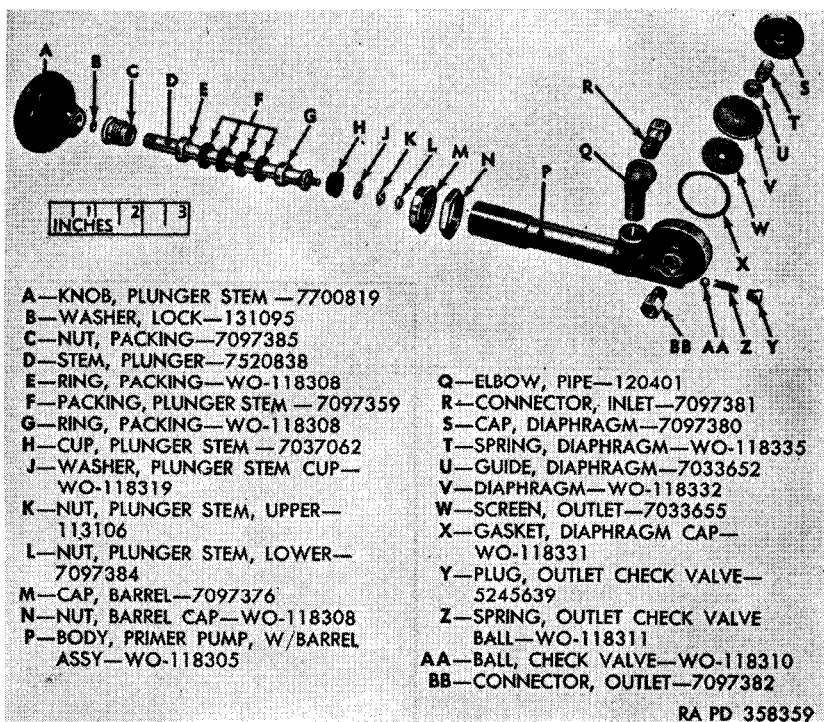

Figure 108. Primer pump—exploded view.
(fig. 108)
a. Disassembly (fig. 108). During removal operations, the knob and plunger assembly will be separated from the pump body. Remove upper and lower plunger stem nuts (K and L). Lift off plunger stem cup washer (J) and plunger stem cup (H). Remove plunger stem knob (A) and lift off lock washer (B), packing nut (C), two packing rings (E and G), and plunger stem packing (F). Remove diaphragm cap (S) from base of primer pump body with barrel assembly (P) and lift out diaphragm spring (T), diaphragm guide (U), diaphragm (V), outlet screen (W), and diaphragm cap gasket (X). Remove outlet check valve plug (Y), from end of primer pump body and lift out the outlet check valve ball spring (Z) and check valve ball (AA). Remove inlet connector (R) from pipe elbow (Q) and remove pipe elbow. Remove outlet connector (BB) from primer pump body.
c. Assembly (fig. 108). Place outlet connector (BB) in opening near end of primer pump body. Place check valve ball (AA), outlet check valve ball spring (Z), and install outlet check valve plug (Y). Place a new diaphragm cap gasket (X), outlet screen (W), diaphragm (V), diaphragm guide (U), diaphragm spring (T), and install diaphragm cap (S). Place packing ring (G) on threaded end of plunger stem (D), followed by four pieces of plunger stem packing (F), a second packing ring (E), and packing nut (C). Place lock washer (B) on plunger stem and secure with plunger stem knob (A). Place the plunger stem cup (H) on the opposite end of plunger stem, followed by a plunger stem cup washer (J) and upper and lower plunger stem nuts (K and L). Place barrel cap nut (N) over threaded end of primer pump body with barrel assembly (P), and barrel cap (M) over bottom of plunger stem assembly. Install pipe elbow (Q) in primer body and inlet connector (R) into pipe elbow.